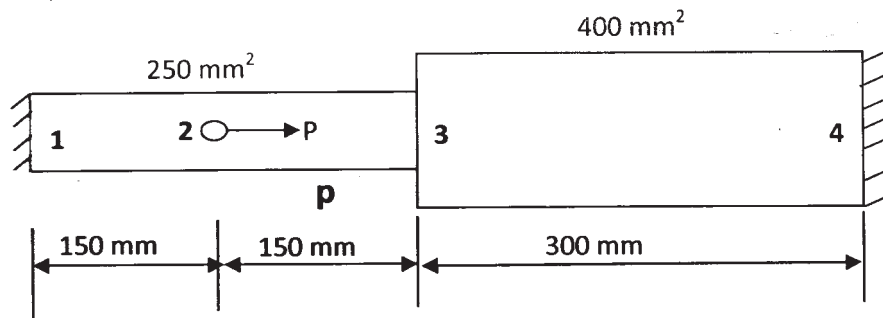

Fig.2.
- b) Determine the nodal Displacement, element stresses and support reactions of the axially loaded bar as shown in Fig.2. Take $E=200$ GPa and $P=30$ KN at node 2. [10]